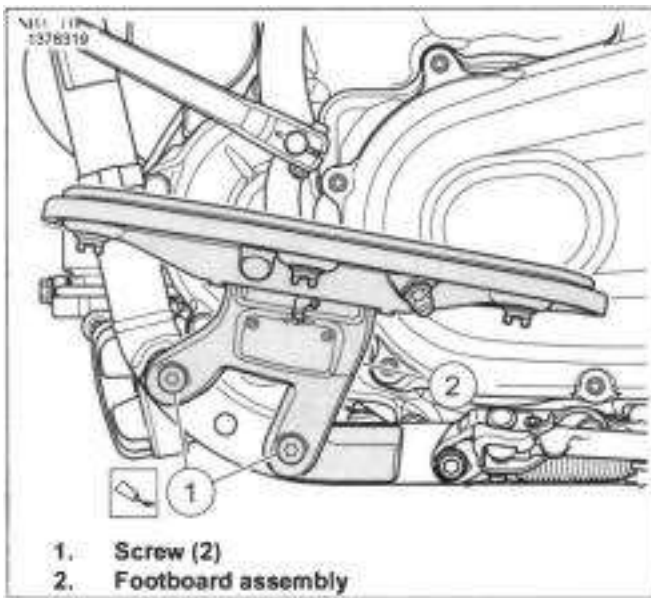

Figure 3-146. Left Footboard
1. See Figure 3-146. Remove screws (1).
2. Remove footboard assembly (2).
2. See Figure 3-146. Install footboard assembly (2).
3. Install screws (1). Tighten.